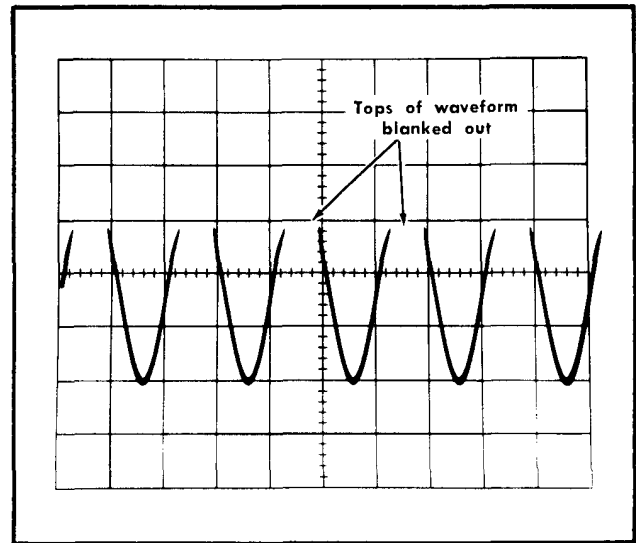

Fig. 6-56. Typical CRT display when checking external blanking.
e. CHECK—The positive peaks of the displayed signal should be blanked with a normal INTENSITY control setting (see Fig. 6-56).